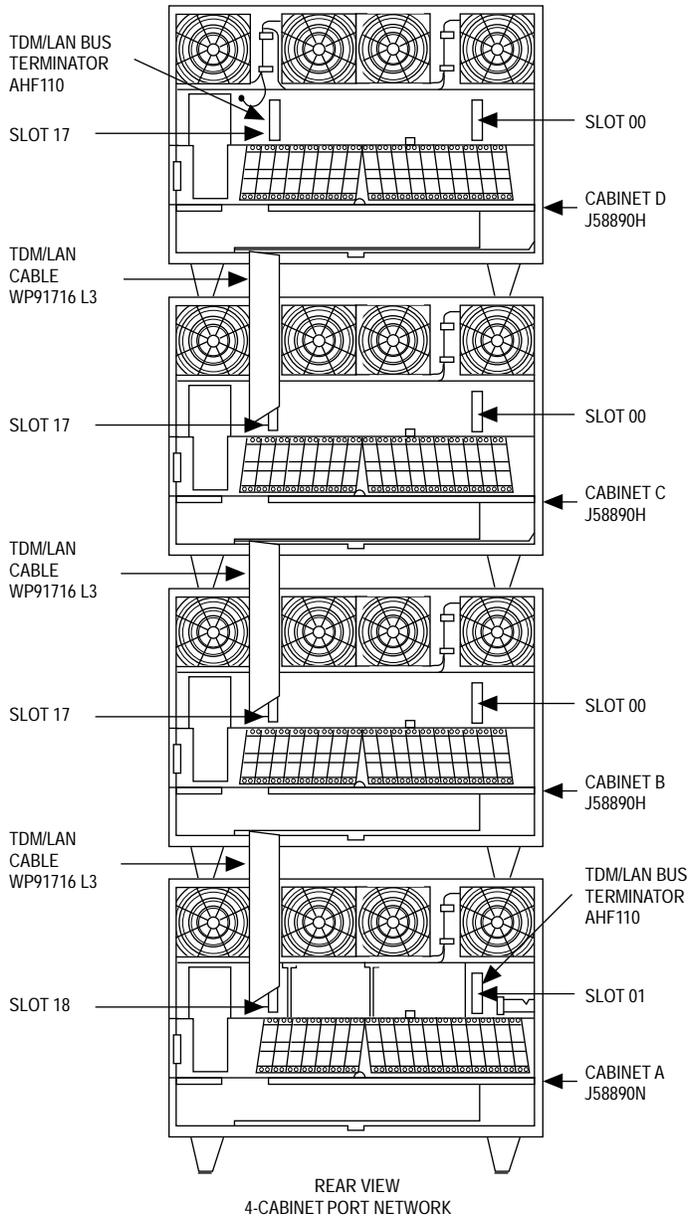

Figure 3-17. TDM/LAN Connections for G3i V4 PPN
10. Connect the new TDM/LAN cable (WP-91716 L7) between the “A” and “D” carriers (see Figure 3-17 and Table 3-4). The cable is connected to the “A” and “D” carriers at the pin-field blocks marked TDM on the right side of each carrier.
11. Connect a new TDM/LAN cable (WP-91716 L6) between the “A” and “B” carriers (see Figure 3-17 and Table 3-4). The cable is connected to the “A” and “B” carriers at the pin-field blocks marked TDM on the left side of each carrier.
12. Connect a new TDM/LAN cable (WP-91716 L6) between the “B” and “C” carriers (see Figure 3-17 and Table 3-4). The cable is connected to the “B” and “C” carriers at the pin-field blocks marked TDM on the right side of each carrier.
13. See CAUTION and NOTE. Remove the TDM cables and adapters from between the “D” and “E” carriers (see Figure 3-13). Install the new WP91716 L6 TDM/LAN cable. The new cable is connected to the same pin-field blocks that the old cable was disconnected from (left side). (See Figure 3-17 and Table 3-4).
14. See previous CAUTION and NOTE. Replace the existing TDM bus terminators (AHF1) with the new ZAHF4 bus terminators. (See Figure 3-13 and Figure 3-17 and Table 3-4).